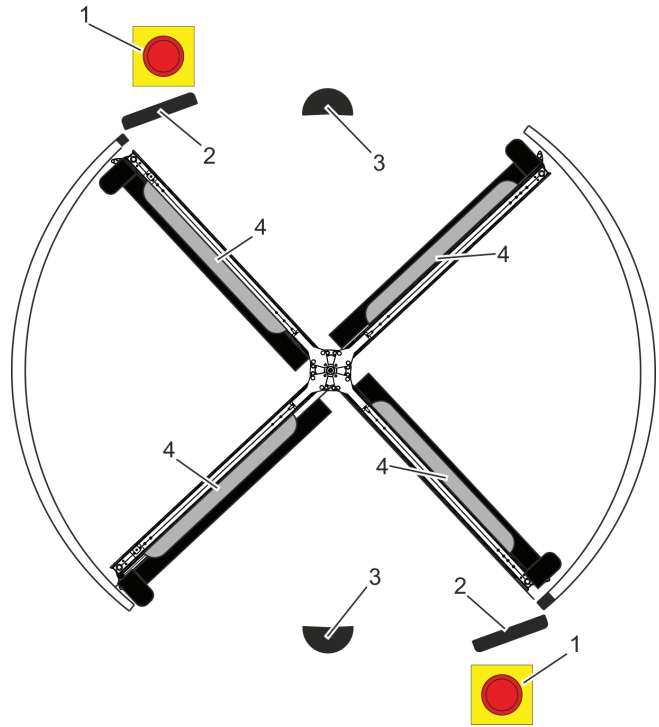

Fig. 56 Check the sensors
1. Ensure that there are not any people in the revolving door, then flip the emergency stop switch (Fig. 56/1) at the entrance or exit.
2. Check if there are any objects or contaminants within range of the canopy sensors (Fig. 56/2). If necessary, remove objects or contaminants.
3. Check if there are any objects or contaminants within range of the motion sensors (Fig. 56/3). If necessary, remove objects or contaminants.
4. Check if there are any objects or contaminants within range of the pre-detection sensors of the wings (Fig. 56/4) or the leading mullions. If necessary, remove objects or contaminants.
Make sure that there are not any people in the revolving door and release the emergency stop switch (Fig. 56/1).
6. If the sensors (motion sensor/pre-detection sensor) fail to react normally even after the objects or contaminants have been removed, push the emergency stop switch (Fig. 56/1) and secure the revolving door against entry. Contact DORMA customer service (Customer service, S. 5).